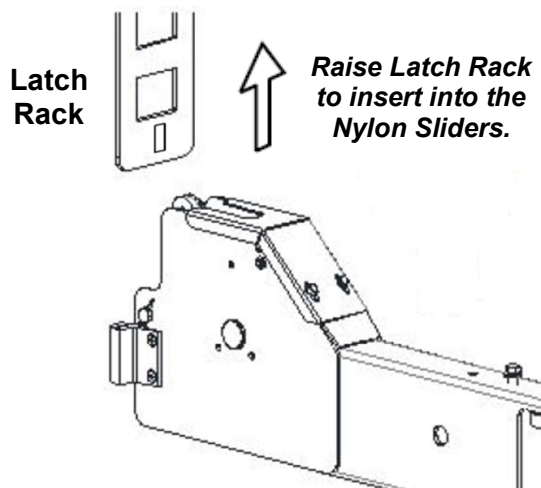

Fig. 12
- 5) Carefully position the Posts towards the Crossbeams ends until the Nylon Sliders contact the Latch Racks. Raise the Latch Rack above the Nylon Sliders to insert the Latch Rack into the Nylon Sliders slots, shown in **Figs 12 & 13**. Repeat for each Post & Crossbeam end.